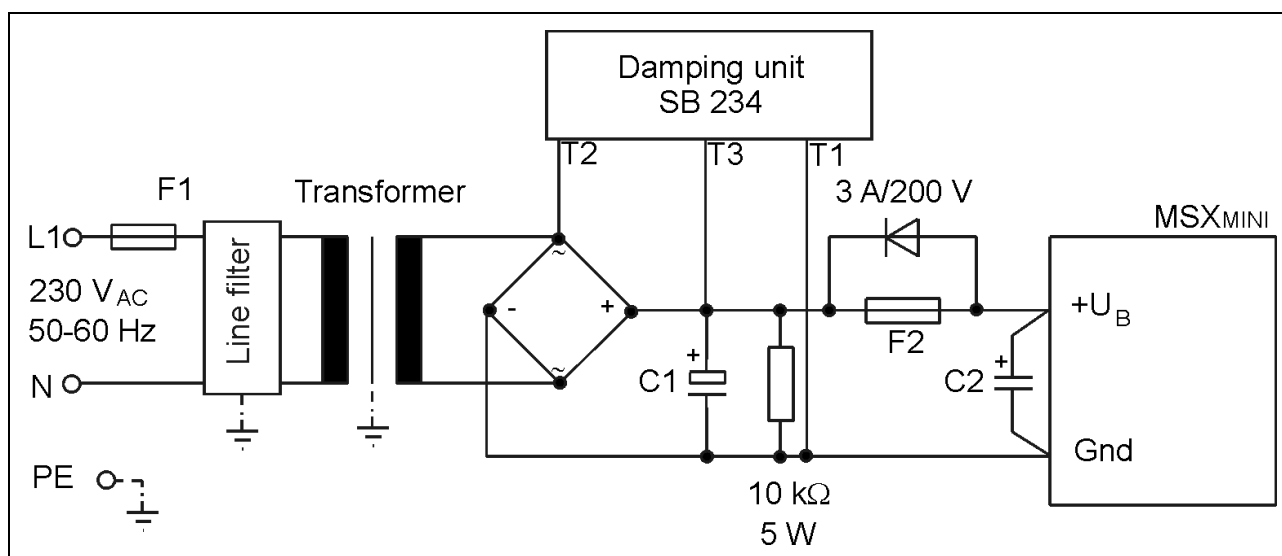

Fig. 8: Mains supply unit
3. If the supply leads between the mains and the MSX are longer than 500 mm, connect a capacitor (C2, approx. 68 µF/200 V - refer to figure 8) as close as possible to the connector. This capacitor must be adapted for switching applications and have a high ampacity (High Ripple Current) e.g. Rubycon series BXC, 68 µF /200 V. We recommend to parallel six capacitors with every 68 µF/200 V for increasing the life-time of the MSX capacitor to get a total of 408 µF/200 V.